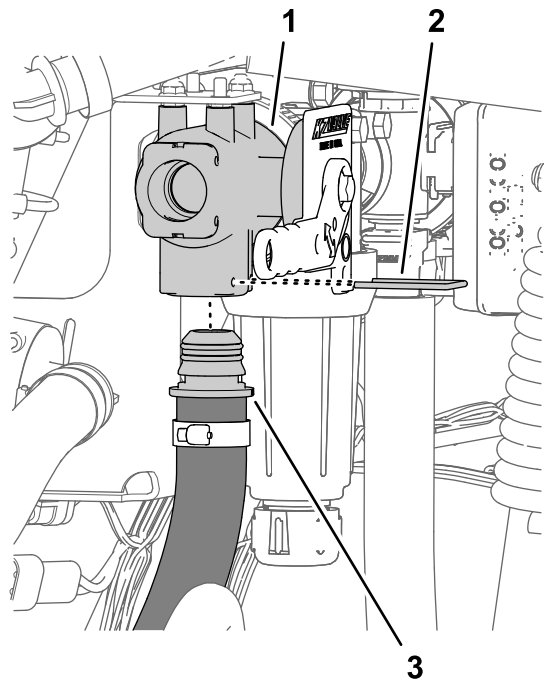

Figure 11
3. Align the straight-barbed fitting of the pressure-hose assembly with the bottom port of the eductor valve and insert the straight fitting until it is seated (Figure 11).